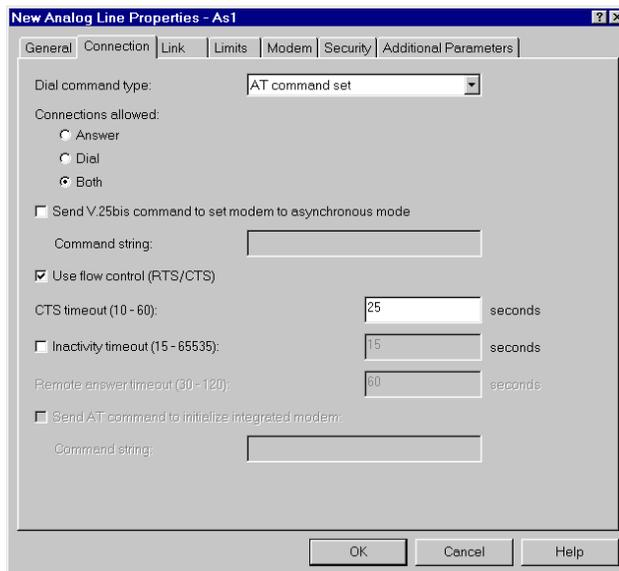

Figure 118. Setting the Connection parameters for line C4S3S
- Click the **Connection** tab (Figure 118).